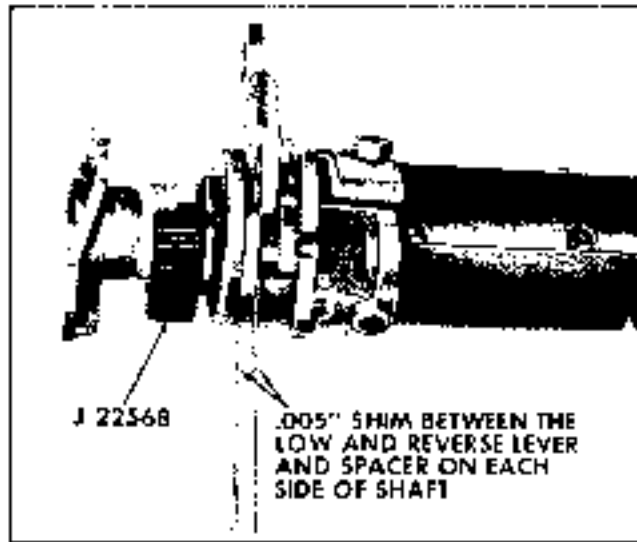

Fig. 9-20 Adjusting Lower Shift Lever Clearance
5. Place a .005" maximum shim on each side of steering shaft between either lever and the spacer (Fig. 9-20). By using two shims the possibility of cocking the lever is eliminated.